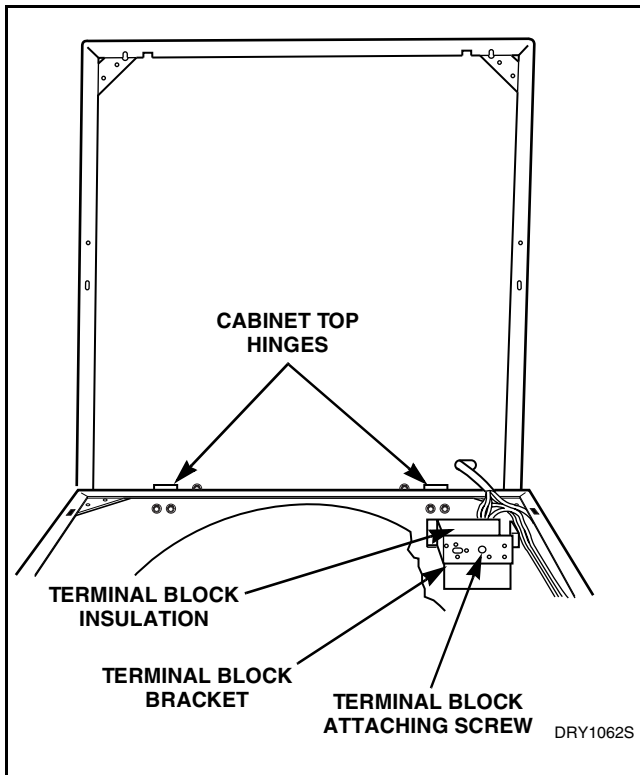

Figure 36
- (5) Raise front of cabinet top hinging on rear hold-down brackets. Refer to *Figure 36*.
- (7) Remove screw holding terminal block to bracket. Refer to *Figure 36*.
- h. Lift cabinet top to a vertical position by hinging it on the rear hold-down brackets. Refer to *Figure 36*.
- i. Carefully withdraw wire harness through hole in cabinet top and lift the cabinet top assembly off the hold-down brackets and set to the side. Refer to *Figure 36*.
- s. Remove two screws from each rear cabinet top hold-down bracket (hinges). Refer to *Figure 36*.
- u. Remove two screws holding terminal block bracket to cabinet. Refer to *Figure 36*.